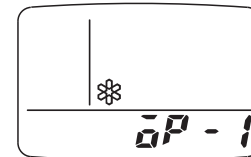

Fig. 10
- d) ✱ appears with "oP-1" blinking in the remote controller clock display area. (Fig. 10)